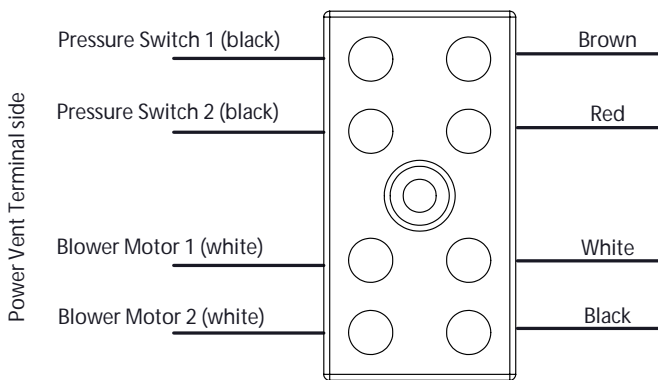

Figure 17: Power Vent electrical termination block wiring
3. Determine which wires within the 5 lead cable will be used for which connections. Use the terminal block wiring diagram in Figure 17 for reference. The cable consists of 1 ground lead (GREEN), 2 pressure switch leads (RED and BROWN), and 2 blower motor leads (BLACK and WHITE).